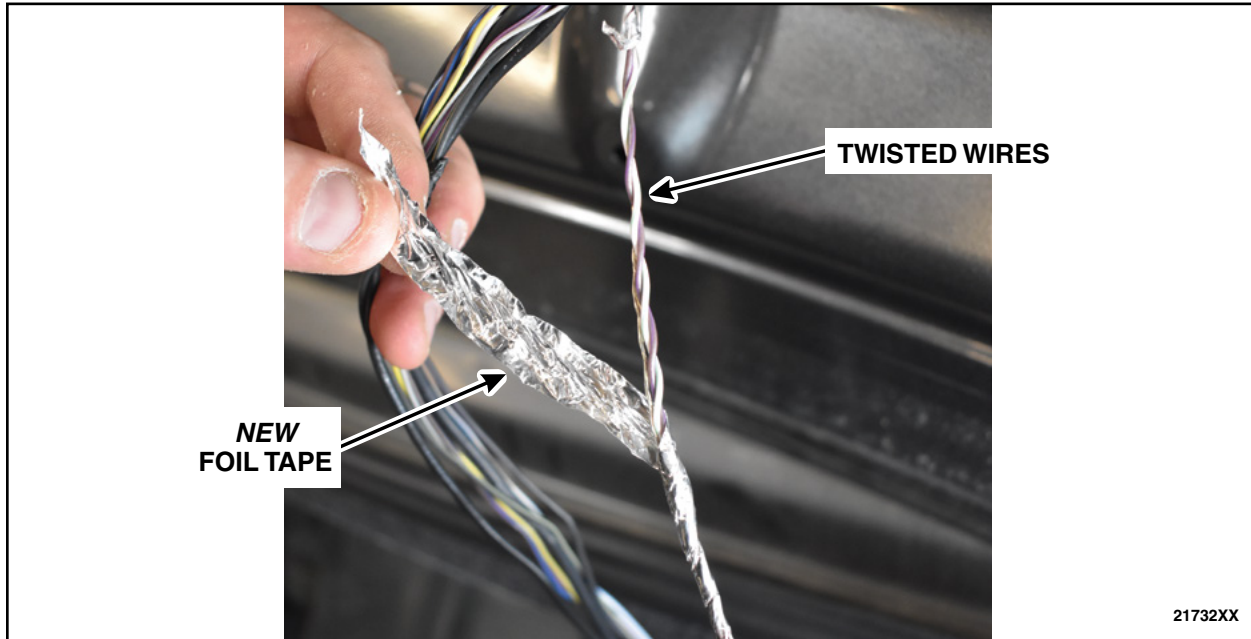

FIGURE 17
26. Wrap the full length of the exposed twisted wires using the **new** foil tape while making sure to properly overlap the wires and have enough tape length to completely cover the wires. See Figure 17.